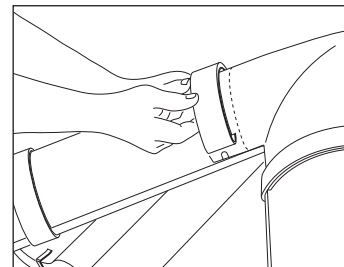

Fig. 14 – Secure apex junction cap with unions
- 22 Secure each hip tile by clipping ends of PVCu hip/ridge union over circular beads of dry hip batten section. Fix any cut hip tiles adjacent to end hip tiles, which must be full tiles (Fig. 14).
align with slot at sides of cap, and are fully clipped to circular beads of dry hip and dry ridge batten sections (Fig. 14). The foam gasket on the underside of the hip/ridge union must be retained.